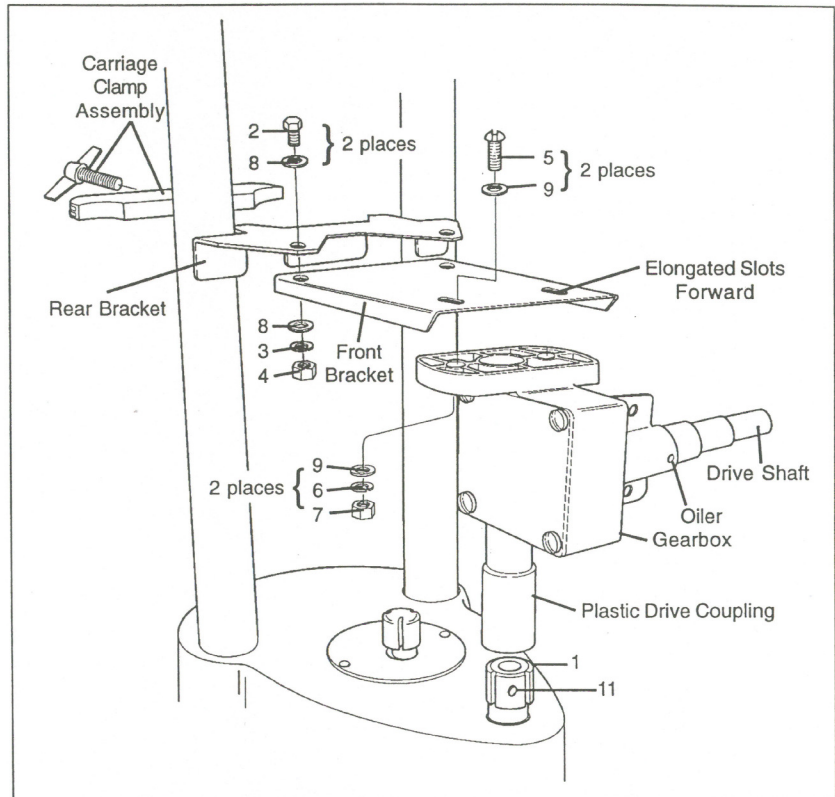

Figure 1 — Assembly overview.
- 3) Slide plastic drive coupling of gearbox attachment on to accessory hub (see figure 1).
- 4) Place Front Bracket on the gearbox with elongated slots forward and attach using screws flat washers, lock washers, and hex nuts (see figure 1). Finger tighten, leaving bracket loose enough to be moved.
- 5) Assemble Carriage Clamp and Rear Bracket. align holes in this assembly over holes in front bracket and secure in place by tightening carriage clamp (see figure 1).
- 6) Connect front and rear brackets with 5/16" x 3/4" hex head bolts, flat washers, lock washers and hex nuts. Finger tighten (see figure 1).